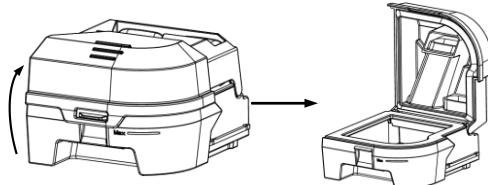

Fig. 16-1
- (1) **Opening the Water Chamber:** Open the cap of the water chamber, as shown in Fig. 16-1.